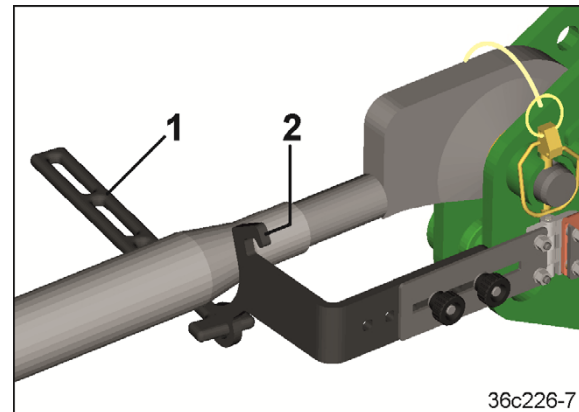

Fig. 110
3. Hook the tensioning element (Fig. 110/1) onto the top link bracket (Fig. 110/2).